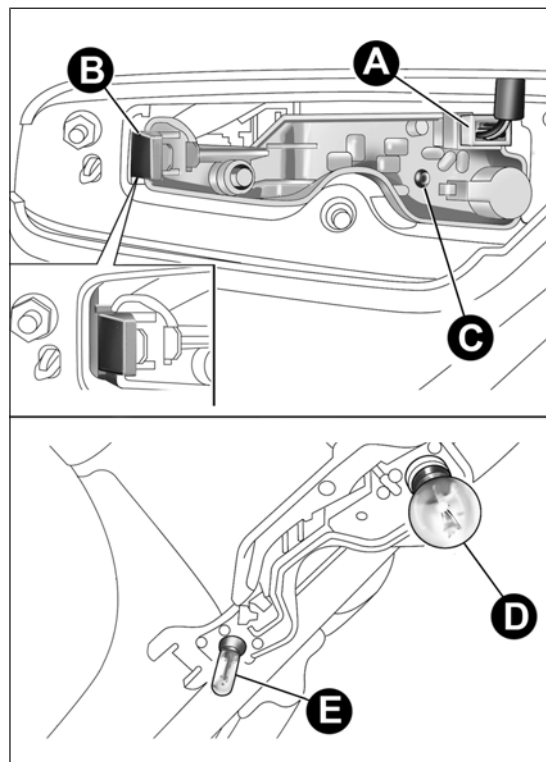

fig. 147
- ❑ remove the connector A fig. 147 and extract the bulb holder assembly by operating on the retaining tab B and then by loosening the screw C;